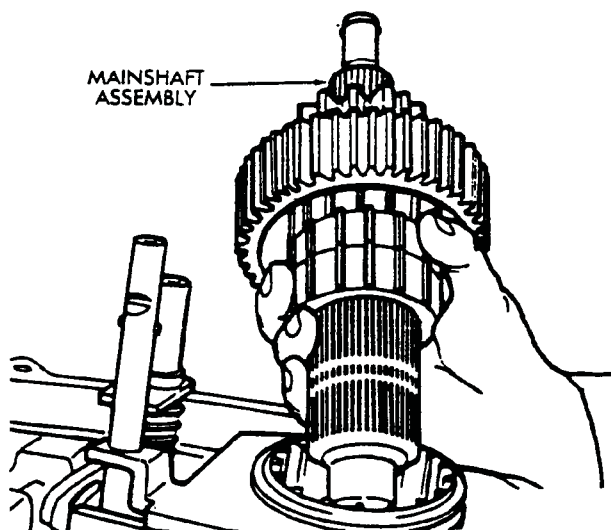

Fig. 4-14 Remove Mainshaft Assembly
19. Remove mainshaft, side gear, clutch gear, drive sprocket and spline gear as assembly (Fig. 4-14). Set assembly aside until front case disassembly is completed.